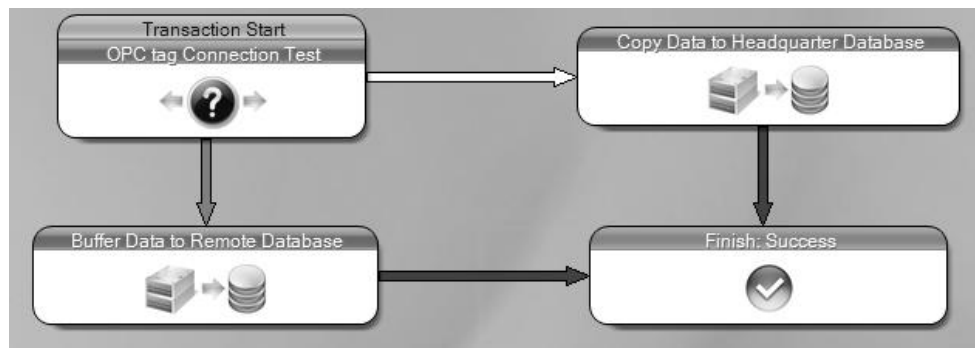

Figure L4.7 – Completed Transaction
10. Now we will add logic to the block. Drag and drop the arrow from the **OPC tag Connection Test** block to the **Copy Data to Headquarter Database** block, and select **On True**. A white line will appear between the blocks. Rearrange the block so it looks like Figure L4.7.